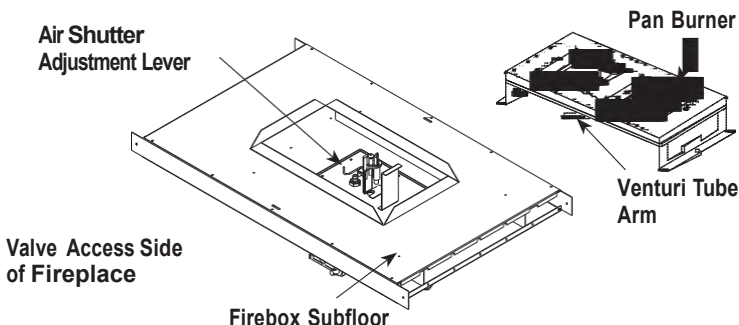

Figure 66
Step 3. Referring to **Figure 66**, remove the burner.
Ensure that the arm of the venturi of the burner is hooked onto the air shutter adjustment lever (refer to *Figure 66 on Page 42*). The primary air opening can be adjusted by rotating the adjustment lever from beneath the firebox floor. Refer to *Figure 64 on Page 37* for the recommended minimum primary air shutter opening setting.